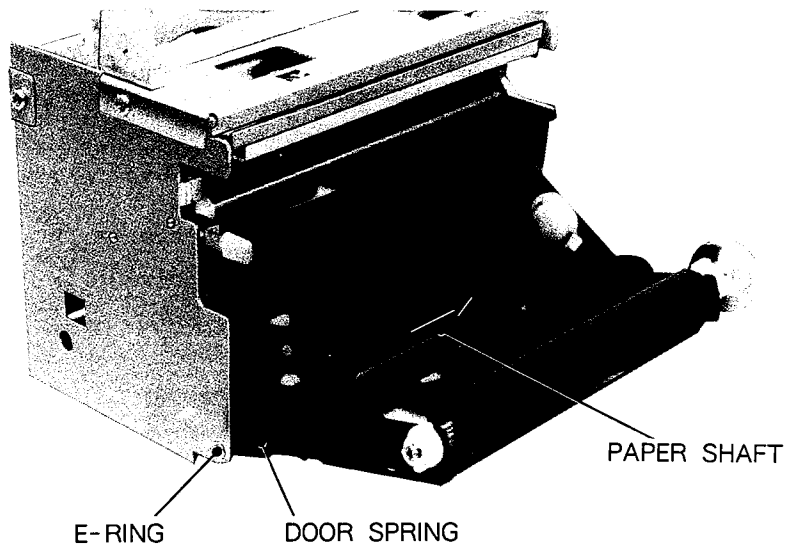

Fig. 12
2. Remove E-RINGS (both sides) of the PAPER SHAFT. (Fig. 12)
Be careful not to lose the door spring which comes off in the above process. (Fig. 12)